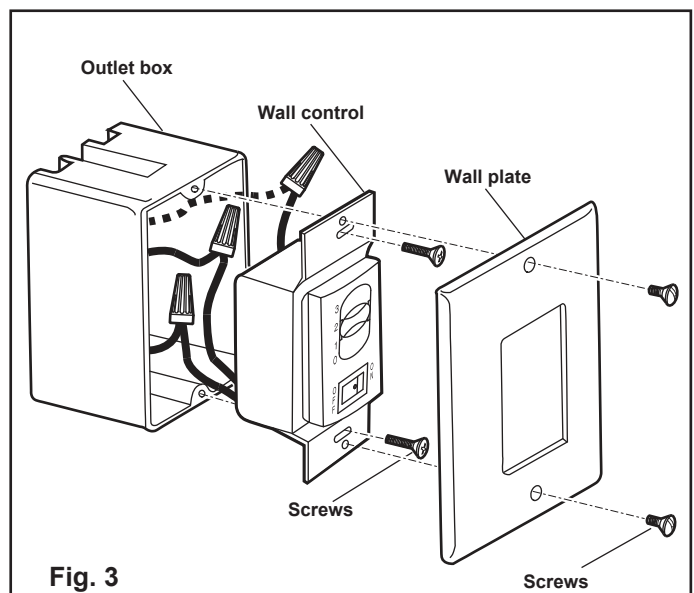

Fig. 3
- Attach the control to the outlet (wall) box and secure with 2 outlet box screws (Figure 3).
- Attach the wall plate over the wall control and secure with the two screws provided (Figure 3).